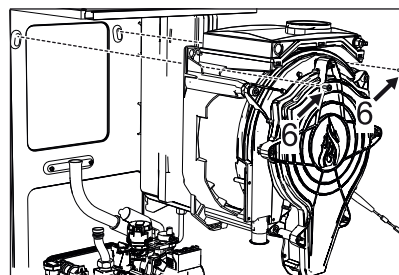

fig. 60 -
- Loosen the two upper screws "6" fastening the exchanger to the frame ("fig. 60 -")